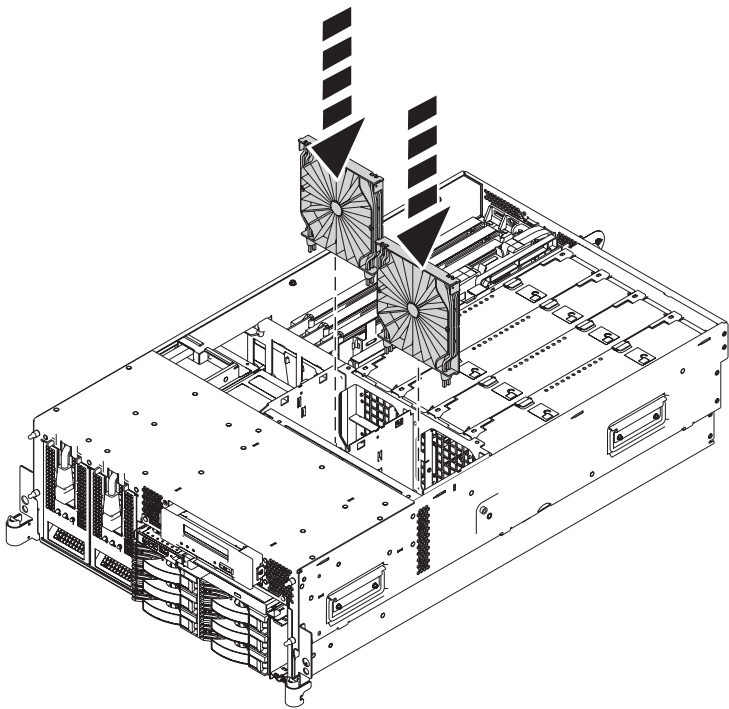

Figure 18. Installing the air baffles in the 8204-E8A or 9409-M50 fan cage
- 2) To install the air baffles, insert the air baffles into their location in the fan cage, and push down until they lock into place, as shown in Figure 18.